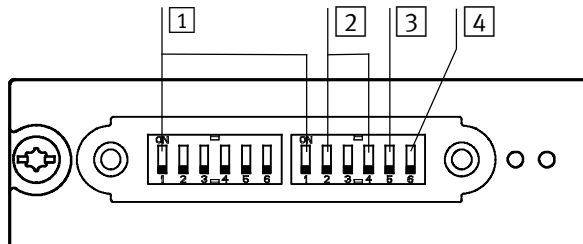

Fig. 1/2: DIL switch groups in the bus node
Set the station address of the bus node binary coded using the switch elements 1 ... 7 (Fig. 1/2, item 1) of the DIL switch. The following station addresses are permissible: